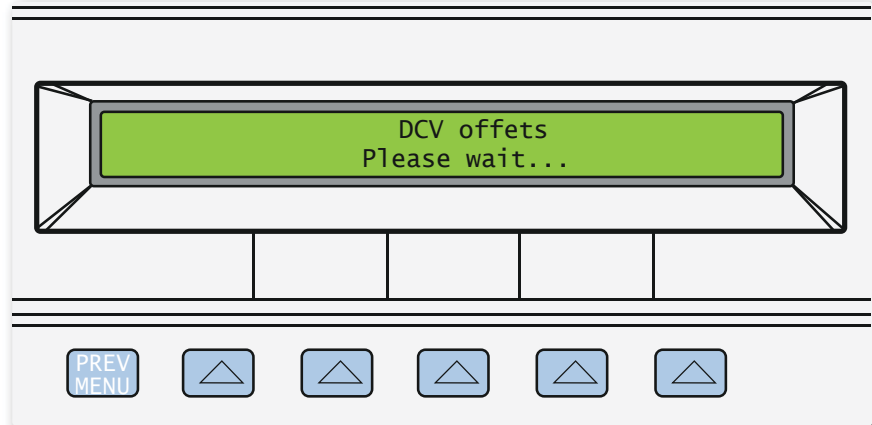

Figure E.18: Fluke 5522A Zeroing message
- 8 The Fluke 5522A Zeroing status message appears; please wait until Zero calibration is finished (see Figure E.18).